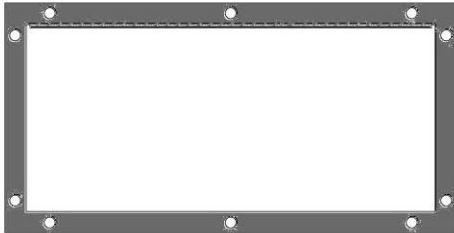

Figure 3: 15.75in x 8in stainless steel gasket (UFS # 19C142); note the flange projecting along the upper interior edge
- b. A second gasket, made of stainless steel (UFS #19C142; see Figure 3), will be placed against the first gasket.